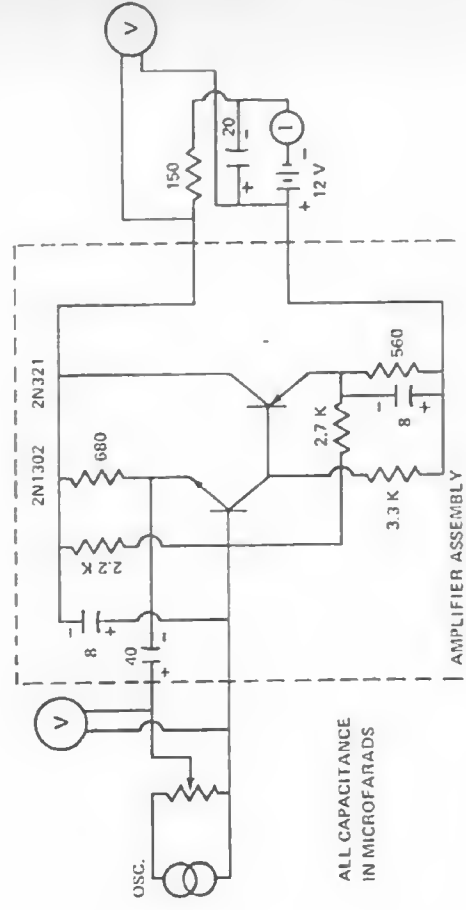

Figure 3 - Test Setup
7. Test Procedure: (See Figure 3)